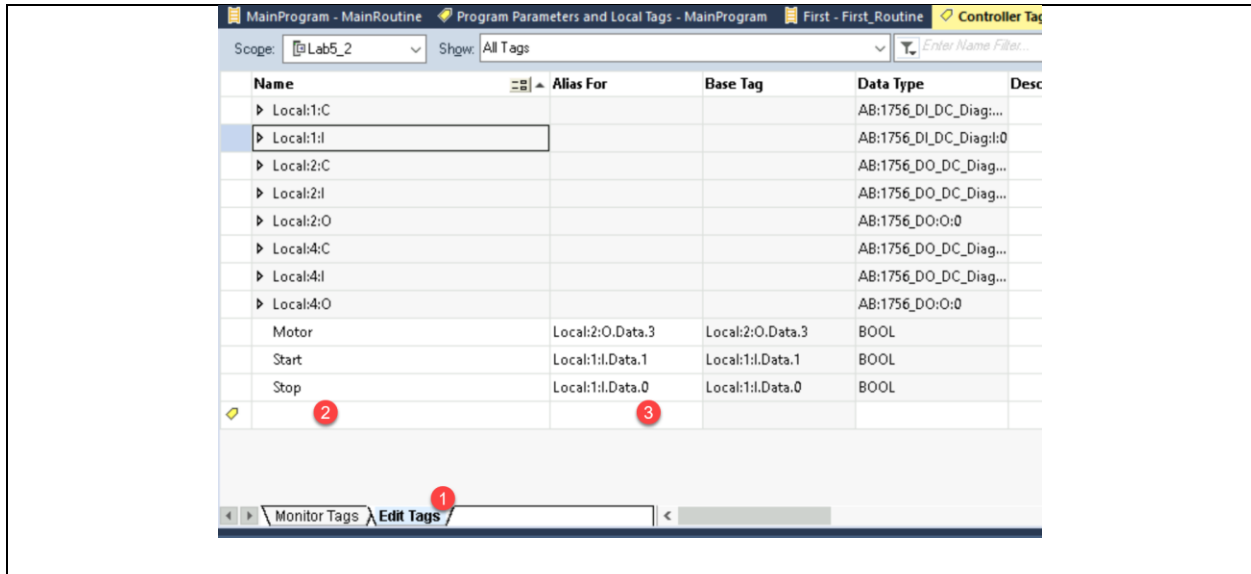

Figure 3. The Controller Tags Window.
- d. Open the Controller Tags (upper left of screen under Controller Organizer) window as shown in Figure 3. At the bottom of the window, click on the “Edit Tags” tab (#1), then enter the name of the Alias Tag (#2), then click on the “Alias For” column (#3) to choose the Base Tag for the Alias to be assigned to.